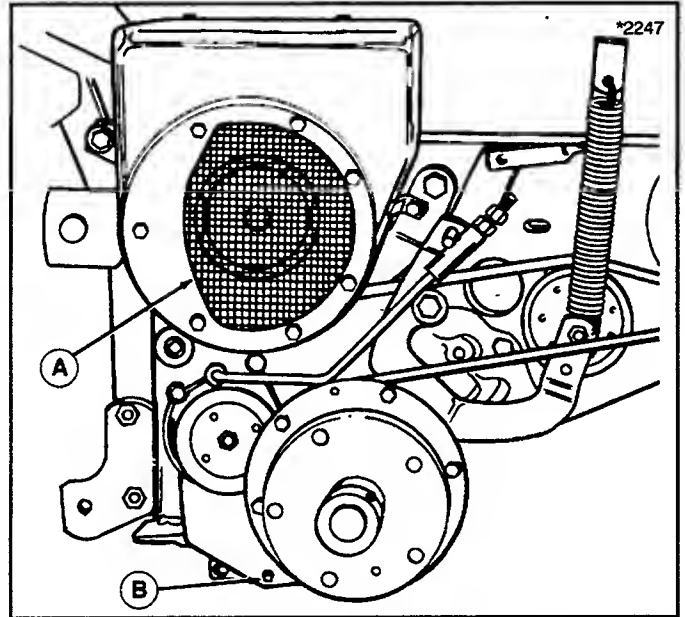

Figure 15. Hydrostatic Transmission
3. Remove hydrostatic transmission drain plug (B, figure 15) from lower right-hand side. Remove dirt from around the fill cap (C, figure 14) and loosen cap to permit air to enter transmission.